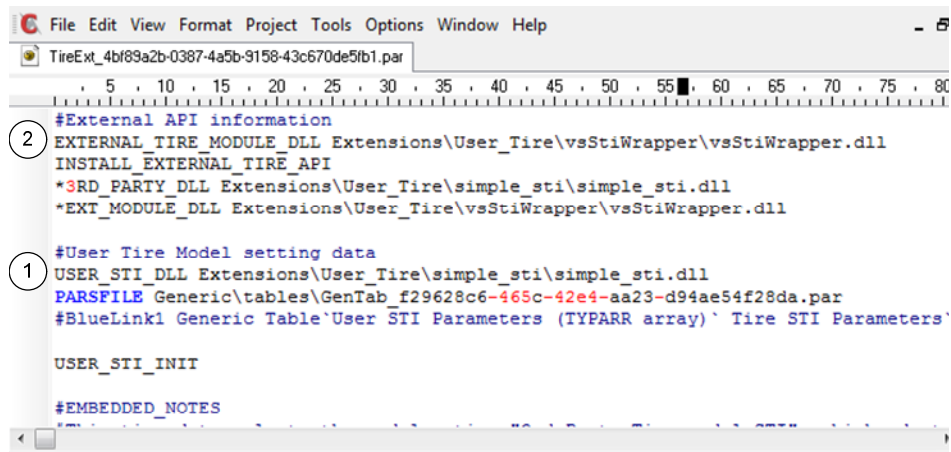

Figure 6. Parsfile written by Tire (External) screen
Click the **Parsfile** button (5) to view the keywords and information specified on the screen in a text file (Figure 6). Notice that the file path information for the tire program file (DLL) and VS STI module (DLL) are indicated by keywords **USER\_STI\_DLL** (1) and **EXTERNAL\_TIRE\_MODULE\_DLL** (2), respectively.
When a VS Solver scans the input Parsfiles, it looks for the keyword `EXTERNAL_TIRE_MODULE_DLL`, which is followed by a pathname for an VS STI module. It also looks for the keyword `INSTALL_EXTERNAL_TIRE_API`. Those keywords are written in the parsfile of **Tire (External)** screen (Figure 6). When the keyword `INSTALL_EXTERNAL_TIRE_API` is found, the VS Solver loads the VS STI module and calls the function `vs_sti_install` from the tire DLL.